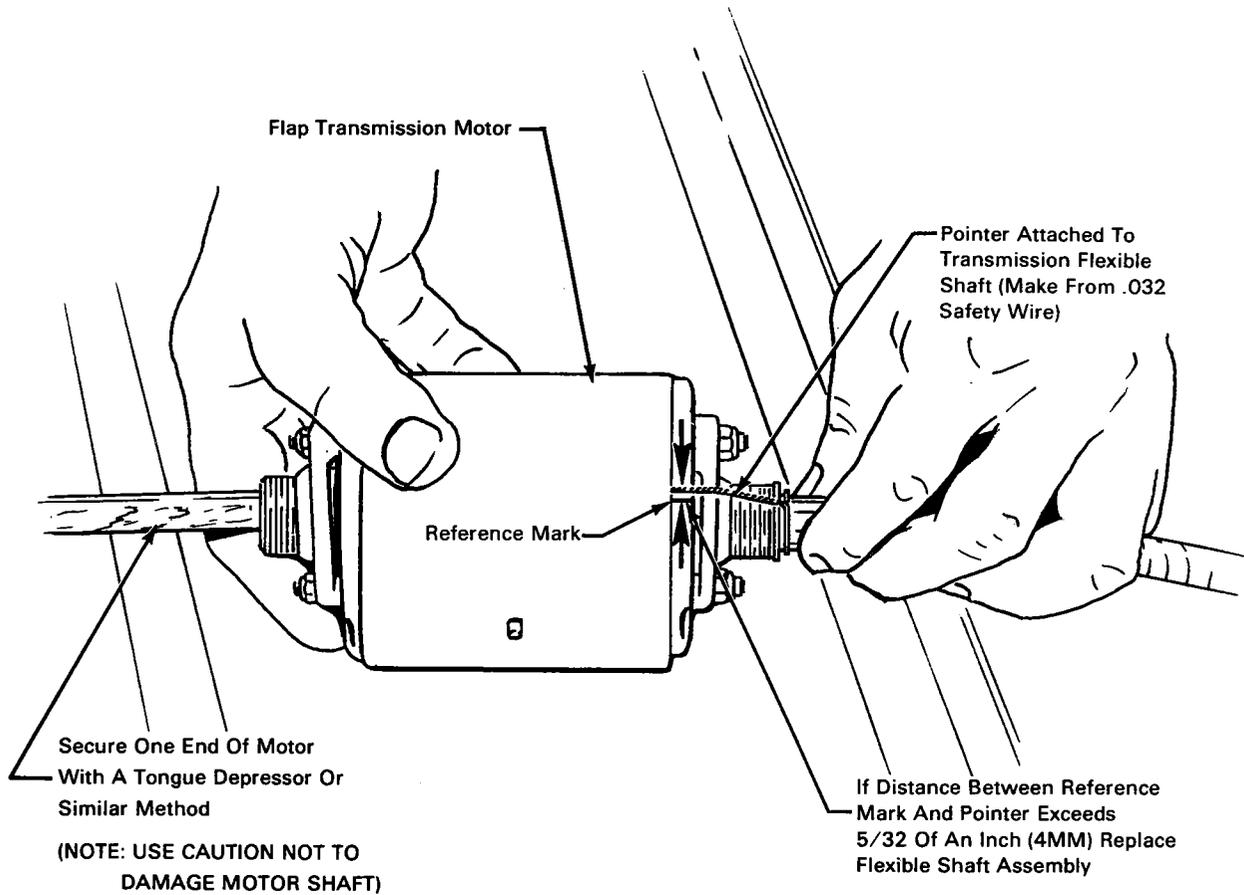

FIGURE 5
- a. Twist a piece of .032 safety wire around the swaged fitting at the motor end of the drive shaft to form a pointer (Ref Sketch F, Figure 5). With one end of the flap motor armature shaft secured engage the opposite end into the flexible shaft spline.
- b. Hold the spline end of the flexible shaft securely with one hand, and gently turn the flap motor to remove rotational play in the splines. Place a reference mark on the motor housing adjacent to the wire pointer (Ref Sketch F, Figure 5). Turn the flap motor gently in the opposite direction to remove rotational play and place another reference mark on the motor housing. If any distance between these two marks exceed 5/32 of an inch (4 mm) replace the flexible shaft assembly (Ref Sketch F, Figure 5).
7. While holding the transmission end of the drive shaft stationary, twist the motor end one (1) turn clockwise and release. Inspect for evidence of movement between the inner cable and the swaged fittings at both ends. Turn cable one (1) turn counter-clockwise and repeat inspection. (Ref Sketch D, E.) If movement or separation between the inner cable and the swage fitting is apparent, replace the flexible shaft assembly.